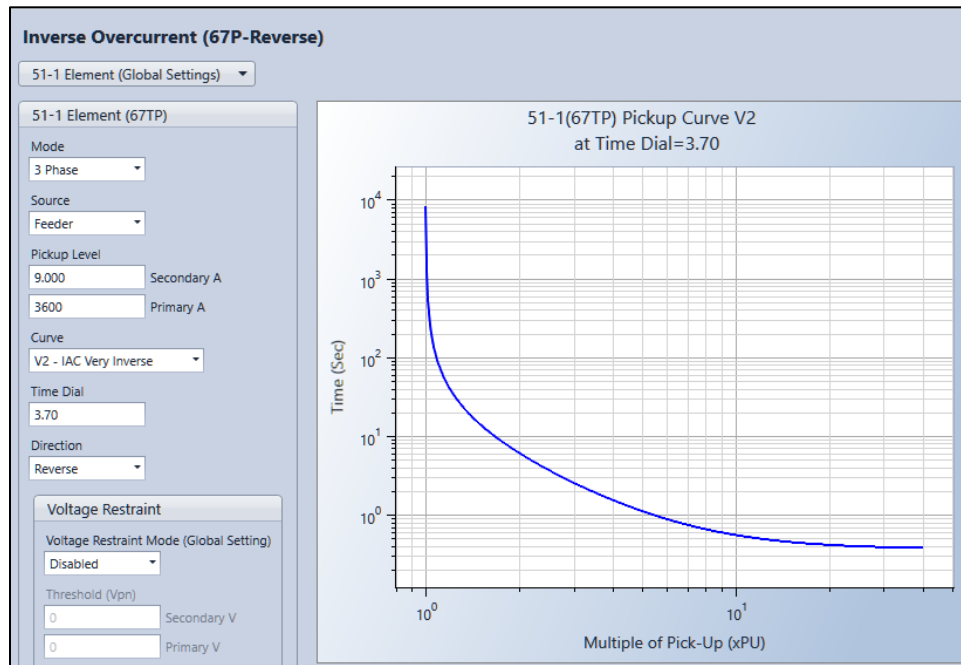

Figure 2-20. Inverse Overcurrent (67P-Reverse) Screen
Step 13: Click Protection from Settings menu to return to Protection Summary. Repeat step 11 for the 67P-Reverse element. Set Mode to 3 Phase, Source to Feeder, Pickup to 9 Secondary A, Curve to V2, Time Dial to 3.7, and Direction to Reverse. See Figure 2-20.